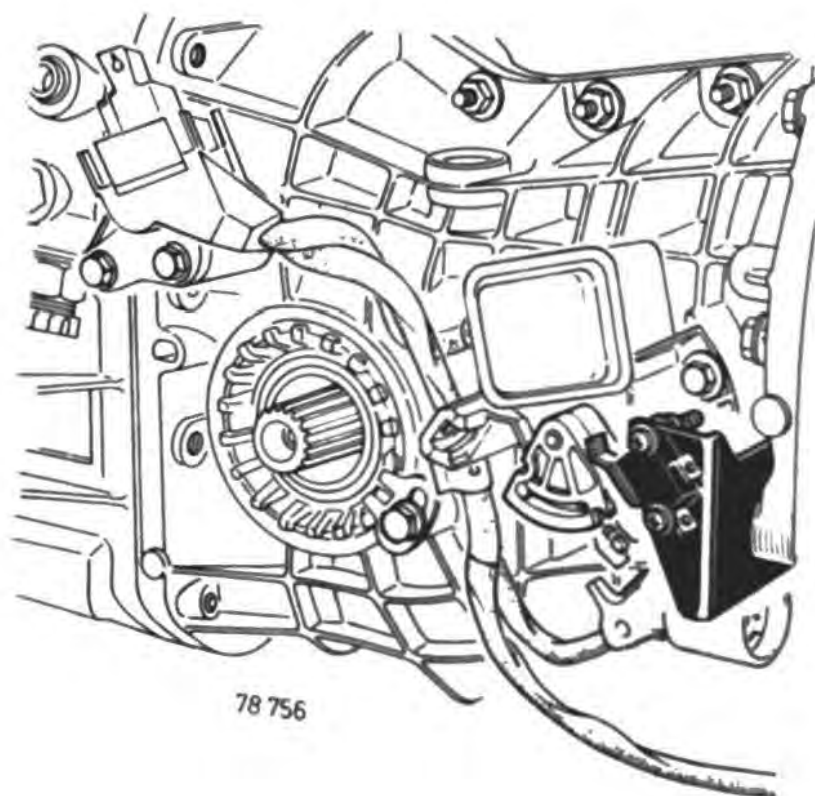

Fig.3
- Fit the bracket under the bolt head holding the final drive and gear casings near the governor-computer (see Fig.3).